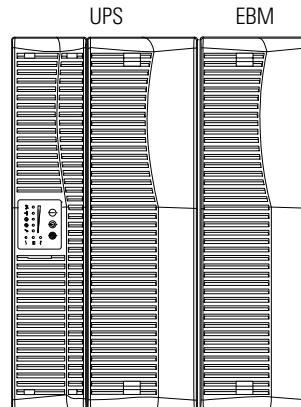

Figure 1. Eaton 9125 Tower UPS with an EBM
1. Carefully position the cabinets upright (see Figure 1).
NOTE The EBM must be installed to the right of the UPS as shown in Figure 1. Joining brackets are required for installations with two or more cabinets.